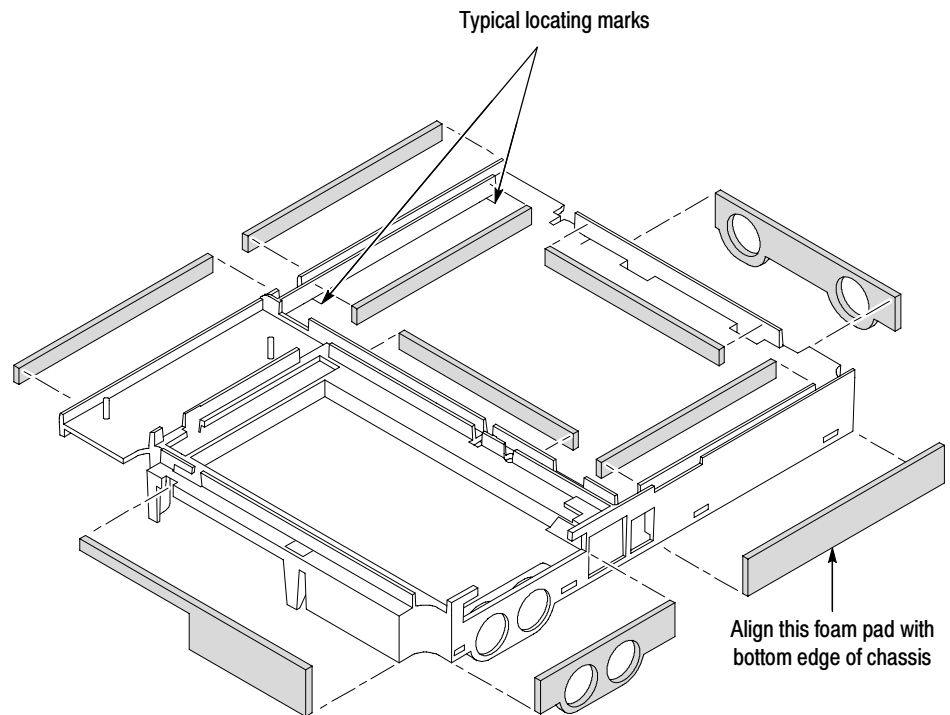

Figure 25: Foam pad locations on the chassis
1. Check that the ten foam pads on the chassis are correctly installed. The foam pads that surround the display module should be aligned to locating marks in the chassis. Refer to Figure 25 for the locations of all the foam pads.